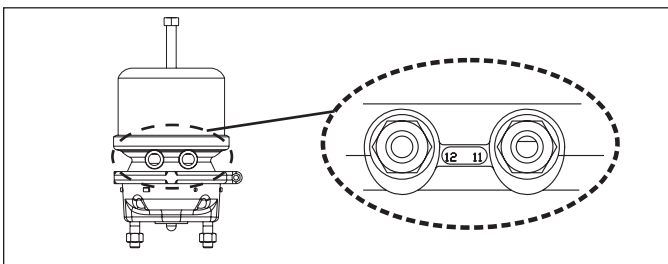

Figure 12 – Port Designations
3. If the air hoses were disconnected, reconnect the air hoses as marked and be sure that each hose is not twisted or in contact with moving vehicle components. The air hose routing must allow for full caliper travel. Note that for spring brake service chambers the ports are indicated by: “11” Service Brake Port and “12” Spring Brake Port. (See Figure 12).